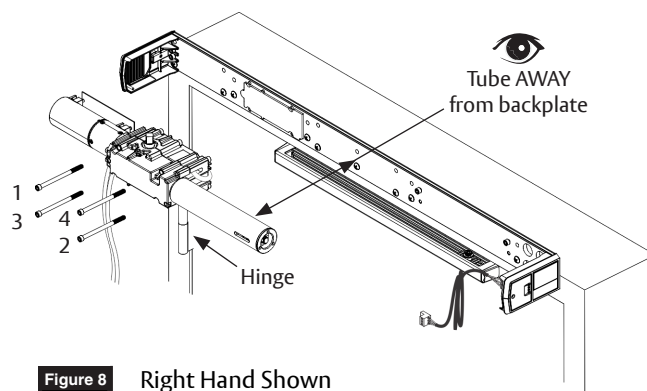

Figure 8 Right Hand Shown
1. Using four (4) screws, install closer body to backplate. (Figure 8)
- Screws must be tightened in a cross pattern until all four (4) screws are tight. (Figure 8)
- Closer body is in proper orientation for PULL SIDE application when tube is AWAY from backplate. (Figure 8)